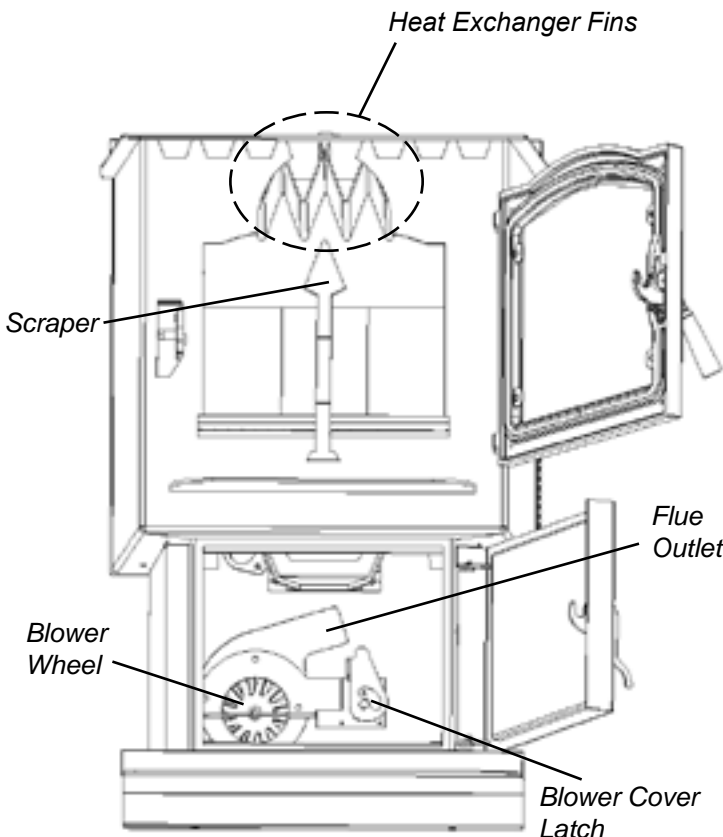

Fig 27
2. Clean heat exchanger with scraper as shown in fig 27.
- Remove combustion blower cover by turning the blower cover latch vertical, see Fig.26. Sliding the cover out of the slot on the left. This will expose the combustion blower wheel and flue outlet, Fig.27.
- Use a brush to clean the flue, being careful not to damage the ESP probe, see Fig. 30. The flue goes straight through into the vent pipe (Fig.27) therefore, the vent pipe can also be cleaned, to some extent, through the flue outlet.